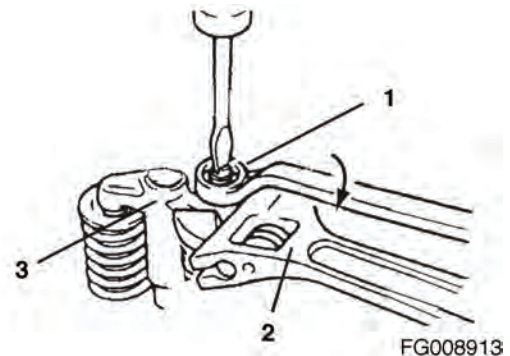

Figure 159
4. Loosen the valve bridge adjusting screw lock nut (1, Figure 159) while holding the bridge (3, Figure 159) with a wrench (2, Figure 159).